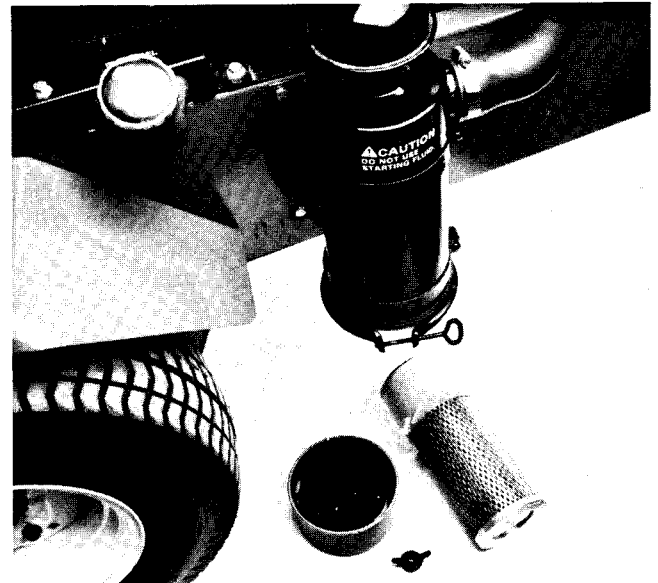

Figure 17
1. Loosen the wing nut until the dust cup and baffle can be removed (Fig. 17). Separate the dust cup and baffle.